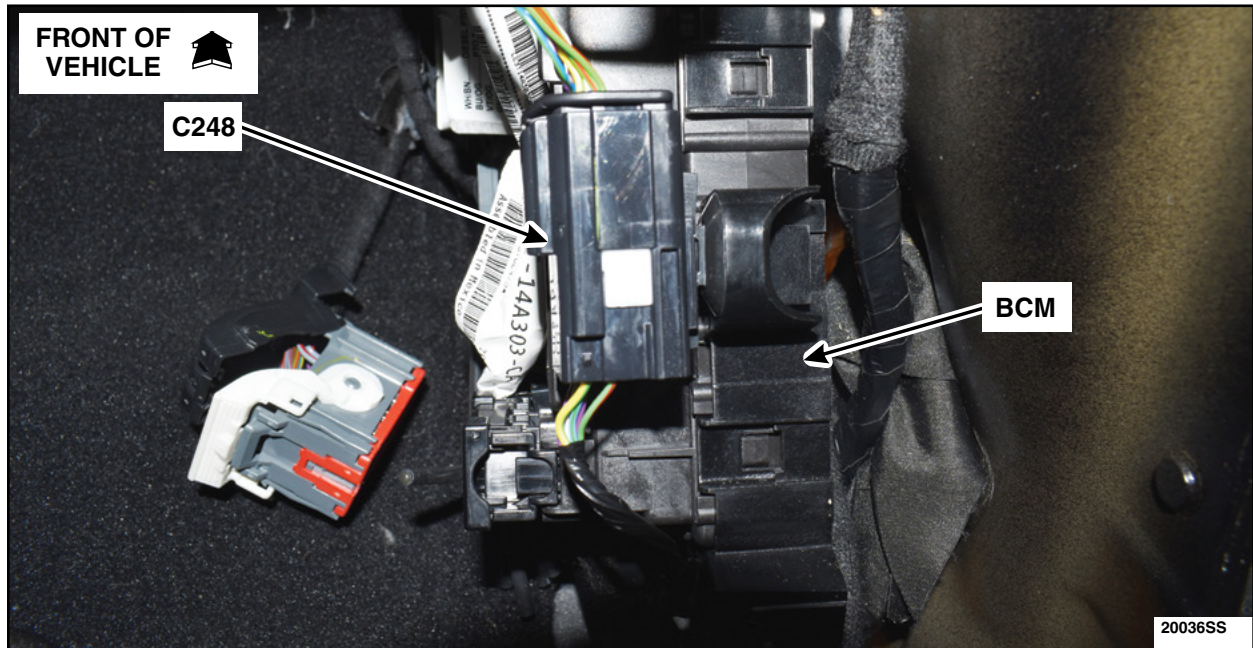

FIGURE 44
62. Locate and disconnect connector C248 on the BCM. See Figure 44.